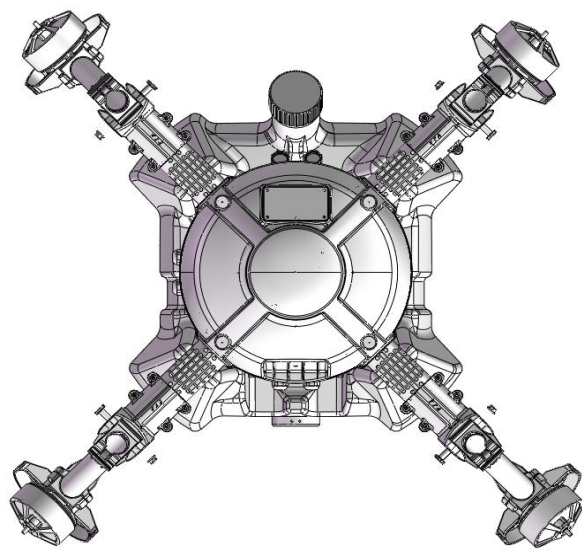

Figure 2-3
- 5) The other three arm should be installed as this method, see figure 2-3.